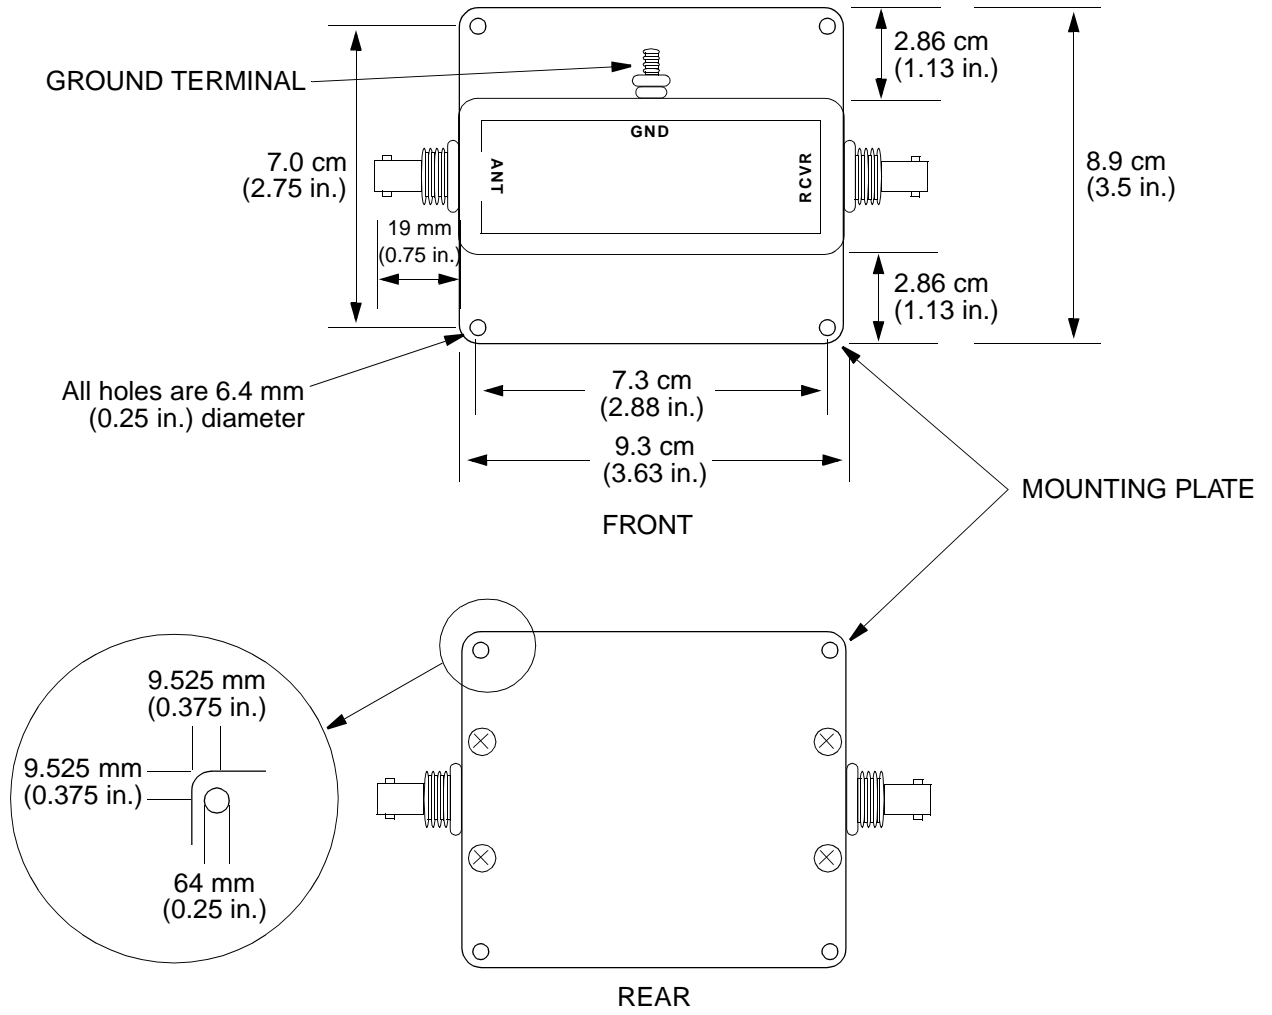
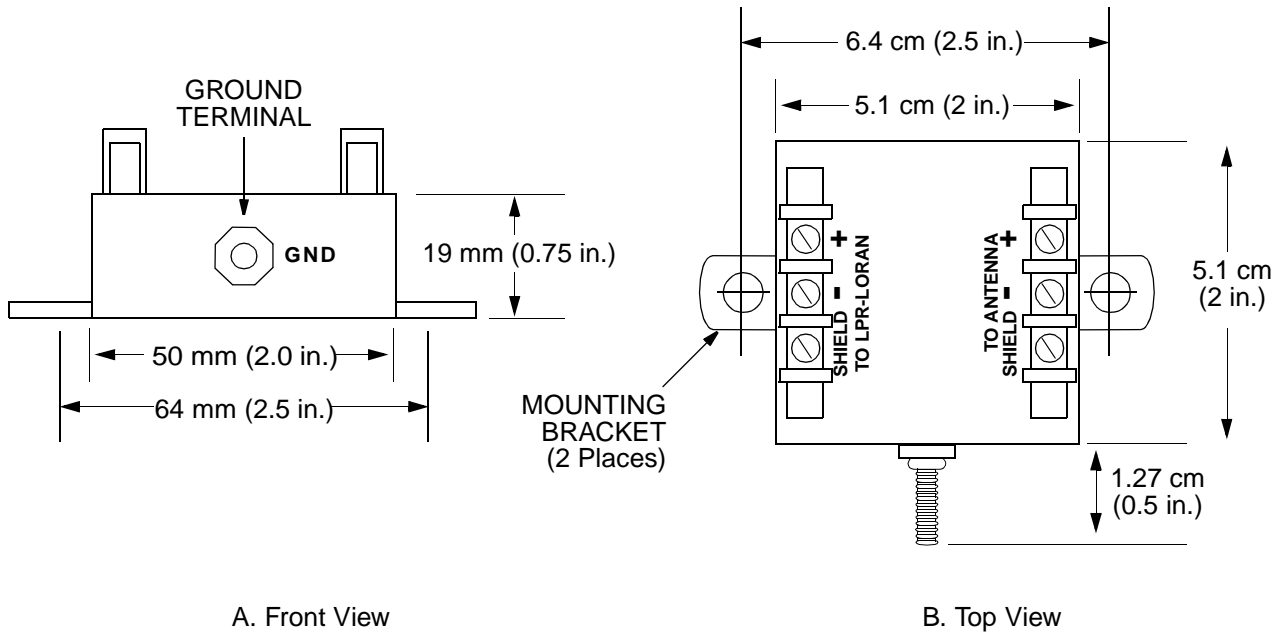

Figure 23. LORAN Type 1 Lightning Protector
Figure 24. LORAN Type 2 Lightning Protector
3.15 Symmetricom offers two types of LORAN lightning protectors: “Type 1” and “Type 2.” Type 1 lightning protectors have BNC connectors (Figure 23). Type 2 lightning protectors have screw-type connectors (Figure 24). When information applies to both types, reference will be made as “lightning protector(s).” Installation procedures for both lightning protector types are included in this section.
- 2) The two twinax cable wires are to be connected to the + and – connectors of the lightning protector (Figure 24); either wire can be connected to either connector, but *this wiring must be continued for all lightning protector connections.*